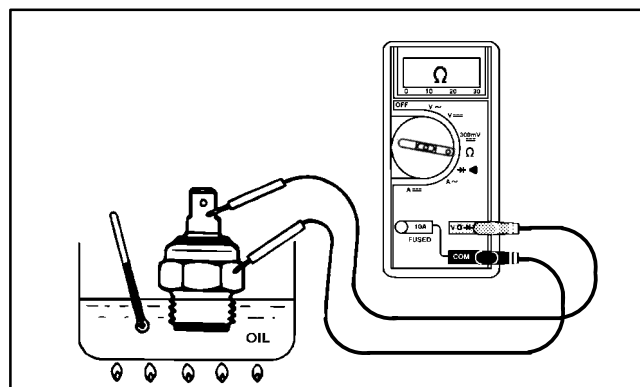

Figure 13
2. Put the end of the sender in a container of oil with a thermometer and slowly heat the oil (Fig. 13).